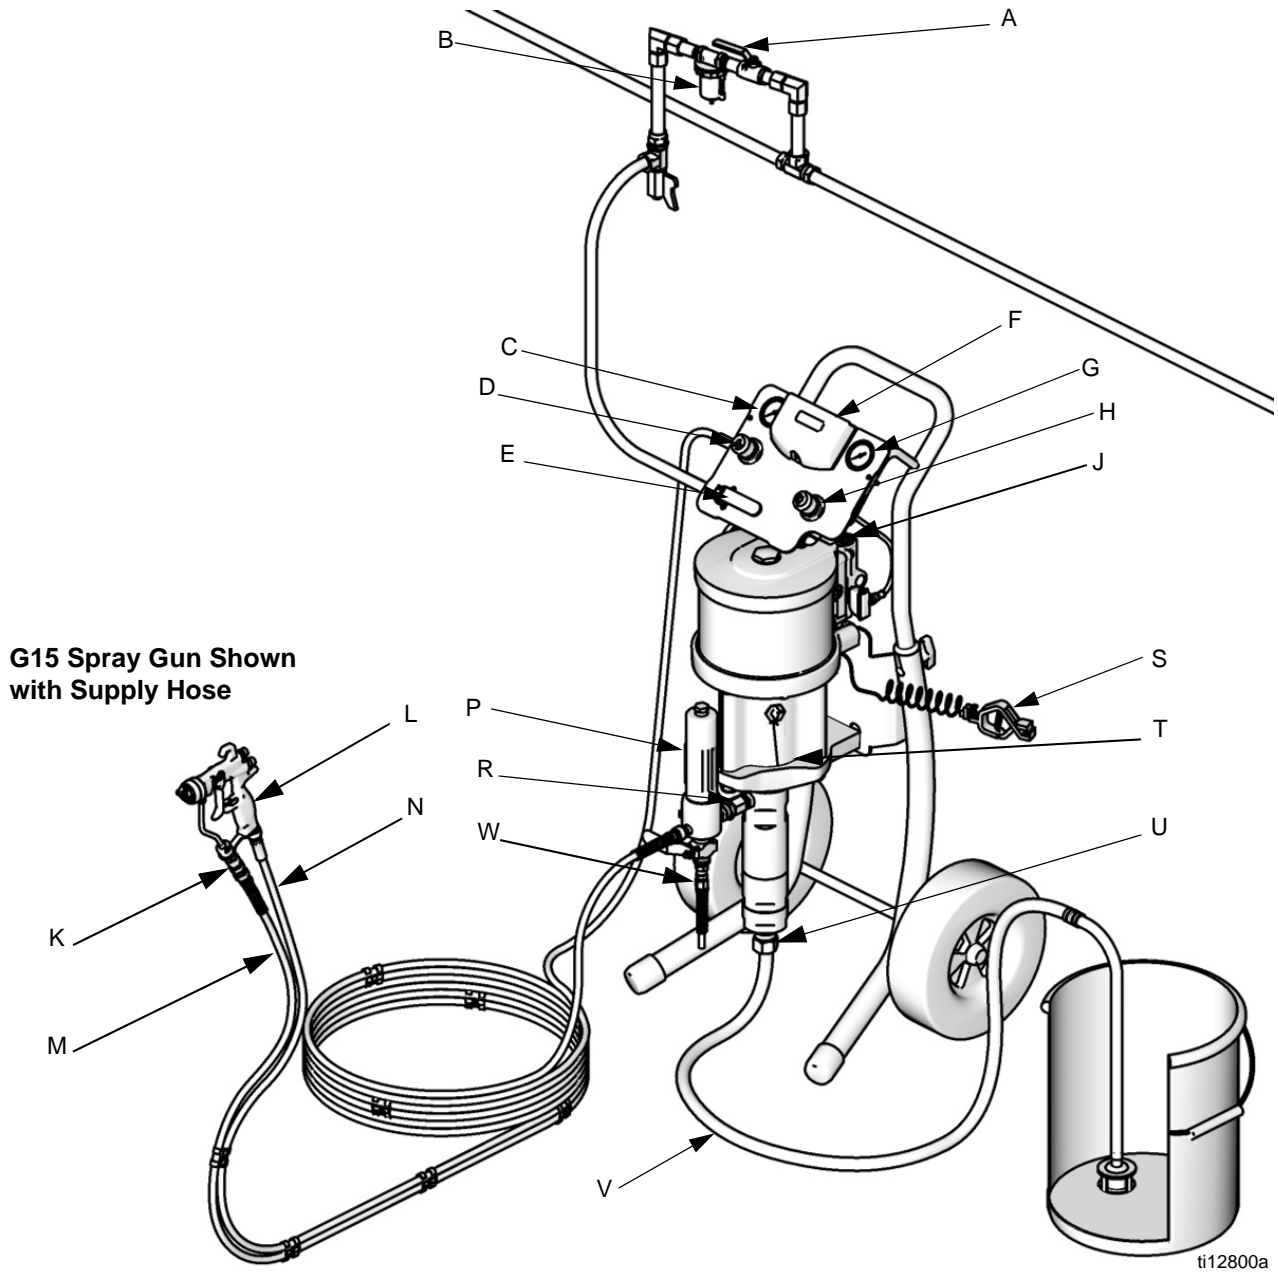

FIG. 1. Typical Installation (Your package may not include all items shown.)
FIG. 1 is only a guide for selecting and installing system components and accessories. Contact your Graco distributor for assistance in designing a system to suit your particular needs.
See FIG. 1. **Components vary by package ordered.** See tables on pages 8 to 16. Your package may include:
Install the following accessories in the order shown in FIG. 1, using adapters as necessary.
1. See FIG. 1. Attach end of blue fluid hose (M) to pump outlet (R) or filter (P) outlet.
2. Attach one end of the air hose (N) to gun air regulator (D).
3. Attach remaining end of the air hose (N) to air inlet at base of gun (L).
4. Attach gun swivel (K) to gun fluid inlet.
5. Attach other end of blue fluid hose (M) to gun swivel (K).
2. See FIG. 1. Turn off the bleed-type master air valve (D).
1. See FIG. 1. Lock gun trigger. Remove tip guard and spray tip from gun (L). Refer to gun manual.
2. Close gun air regulator (D) and pump air regulator (H) by turning knobs counterclockwise reducing pressure to zero. Close bleed-type air valve (E). Also verify that all drain valves are closed.
3. Connect air line to bleed type air valve (D).
6. Hold metal part of gun (L) firmly to side of grounded metal pail, unlock trigger, and hold trigger open.
8. Open bleed-type air valve (E). Slowly turn clockwise pump air regulator (H) increasing pressure until pump starts.